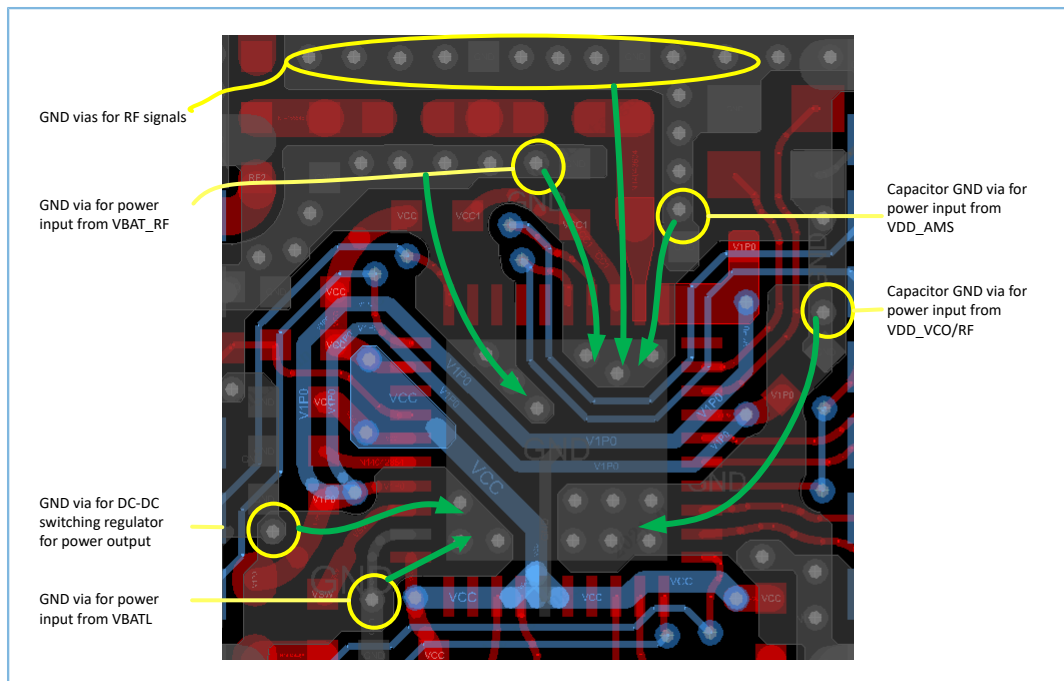

Figure 4-14 Power and GND routing reference design for 2-layer PCB (QFN40)
2. The figure below is a reference design for power and GND routing (taking PCB in QFN40 package as an example). The GND vias circled in yellow are used for return paths of power and RF signals, and shall be connected to the heat dissipation pad with short, wide traces through copper pour areas on the bottom layer (indicated by the green arrows in Figure 4-14).